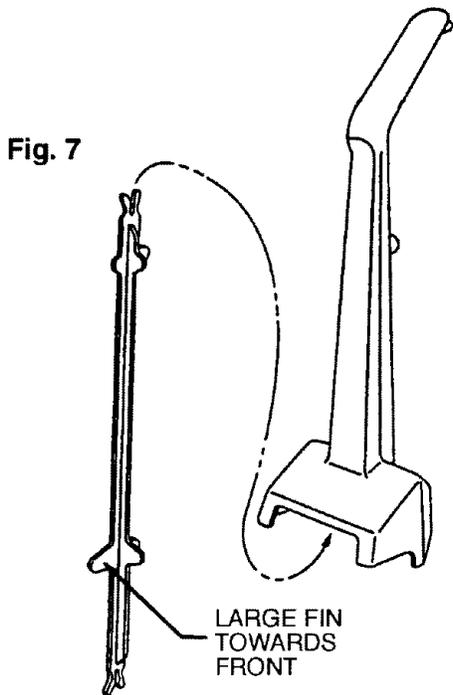

**Fig. 6**
1. Remove two bolts and slide handle off. **(Fig. 6)**